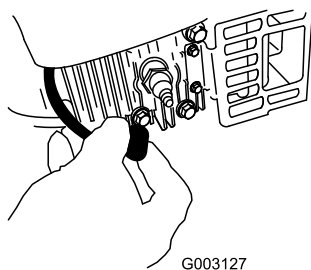

Figure 26
2. Disconnect the spark-plug wire from the spark plug (Figure 26).